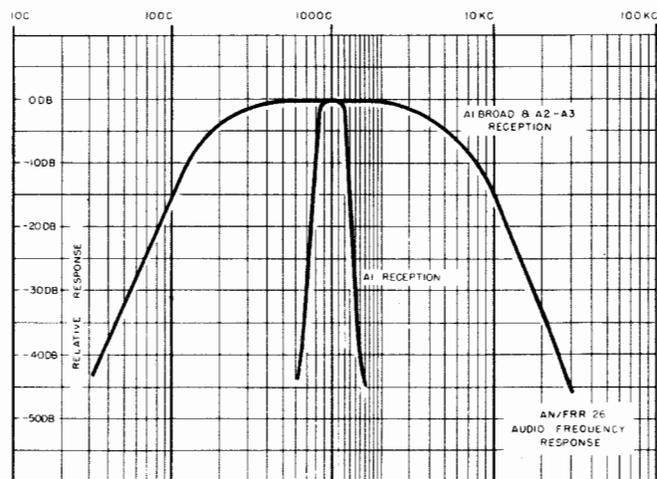
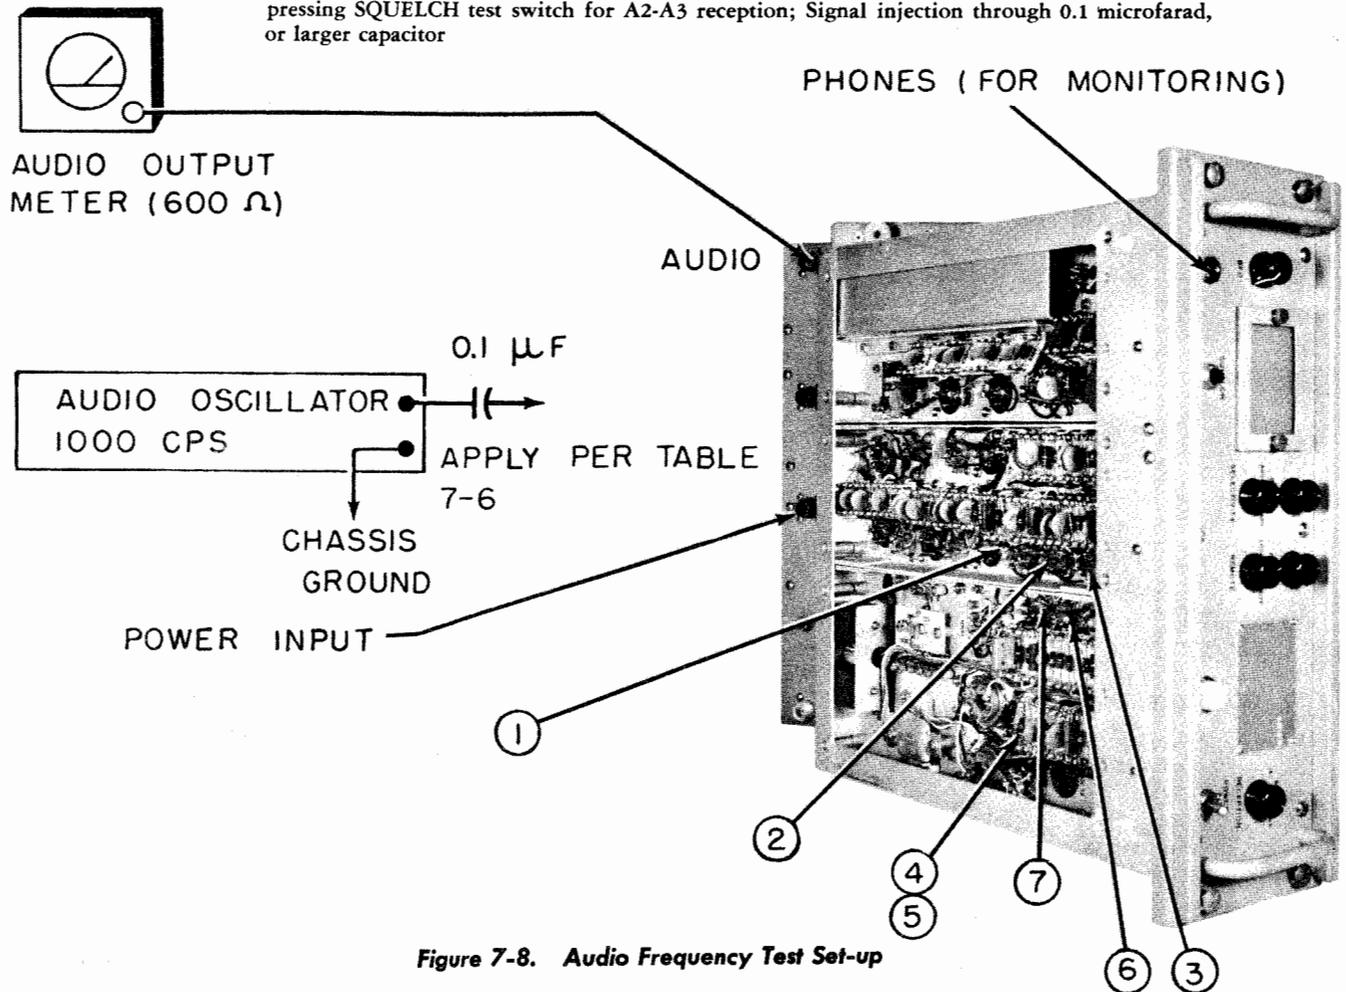

Figure 7-7. Audio Frequency Response
Figure 7-8. Audio Frequency Test Set-up
(1) Connect a 600 ohm audio output meter across pins A and B of AUDIO receptacle (J505), located on the rear panel. The test set-up is shown in figure 7-8. Proceed with the test as outlined in table 7-6. The overall audio response is additionally indicated by figure 7-7.